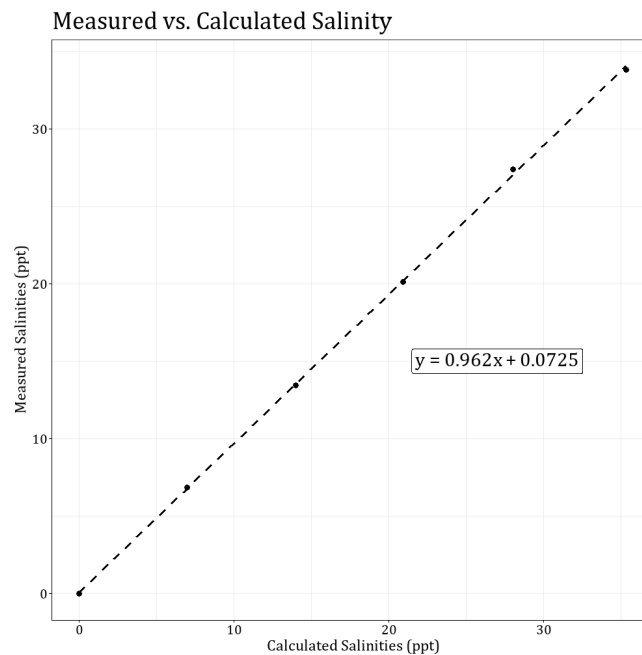

Figure 13. Salinity calibration curve.
Step 6. Set the filenames and file path in *calibrations\_markdown.Rmd* to the appropriate values to produce a calibration curve as in Figure 13.